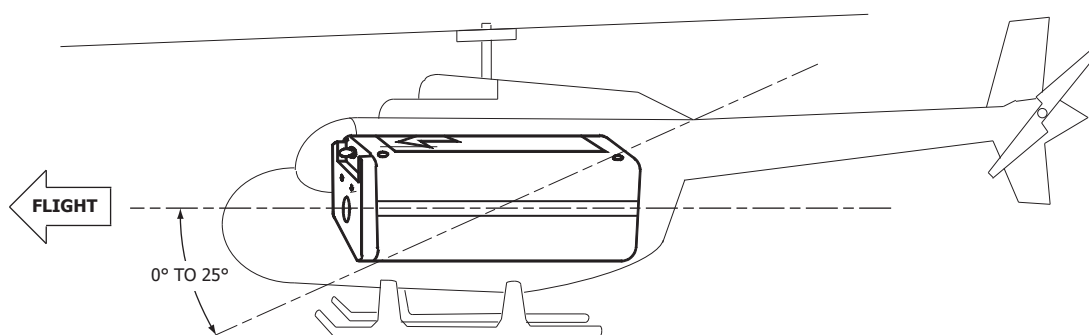

Figure 27. Orientation of ELT for Helicopter Installations
- (1) Mount the C406-1HM ELT parallel to the waterline of the fuselage, along the longitudinal axis, with the direction-of-flight arrow on the ELT pointing forward. See "Figure 27. Orientation of ELT for Helicopter Installations".